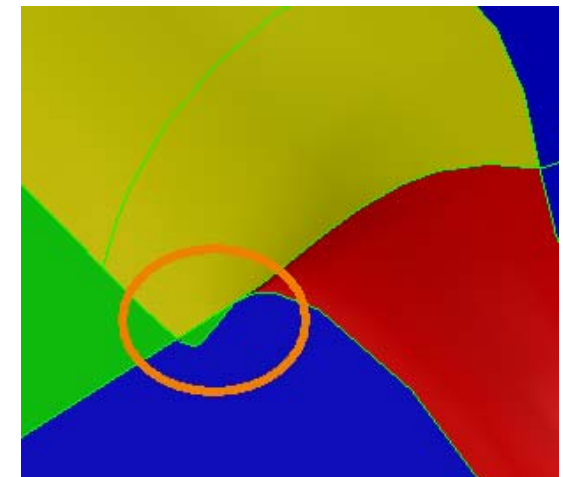

Figure 4. Loop self-intersects
4. Error: Loop self-intersects (Fig. 4)